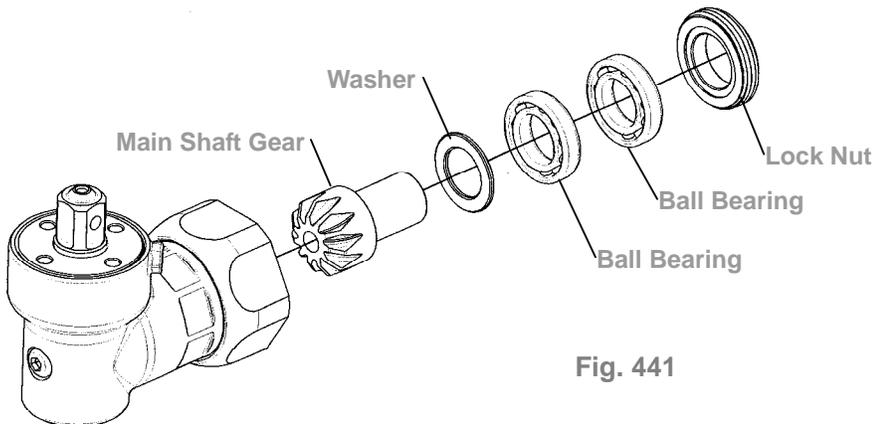

Fig. 441
- ② Assemble the parts in Fig. 441 one by one orderly into the angle housing. Then, fix the angle housing unit. Use the torque wrench and the appliance clockwise to tighten the lock nut of the main shaft gear. See Table 65 in reference to the proper appliance selecting.